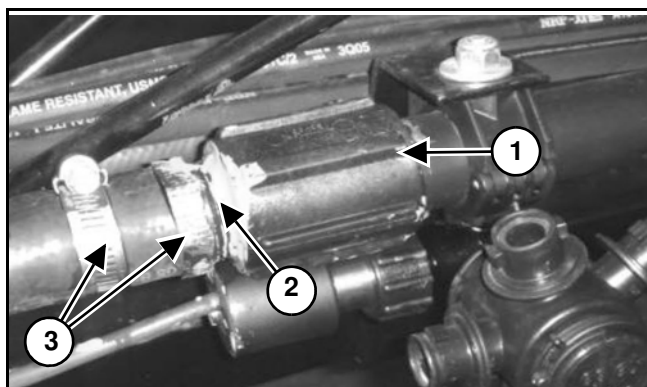

Figure 22
[Figure 22] - Glue and install the female coupler (1) and a male threaded barb (2).